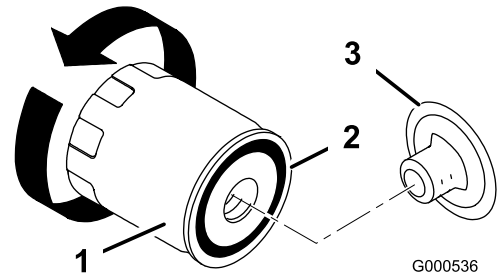

Figure 23
2. Remove the old filter (Figure 23).
4. Install the replacement oil filter to the adapter. Turn the oil filter clockwise until the rubber gasket contacts the filter adapter, then tighten the filter an additional 2/3 to 1 turn (Figure 23).